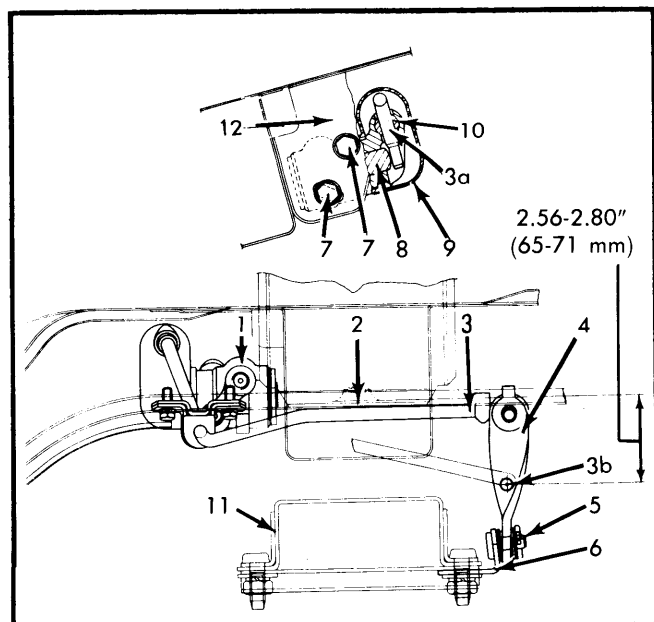

Fig. 3 Brake Pressure Regulator Measurement and Adjustment Points for Strada Models
Strada — Raise and support vehicle. Loosen compensator (1) attaching bolts (7). Unclip plastic clamp and slide dust boot (9) from compensator. Disconnect torsion bar (3) from connecting link (4). Distance between center of suspension rubber buffer seat (2) and torsion bar end (3b) must be as shown in Fig. 3. Once specification is obtained, rotate compensator until piston (8) is just touching torsion bar (3a). Tighten bolts, connect torsion bar to connecting link. Slide dust boot onto compensator and secure with plastic clamp.